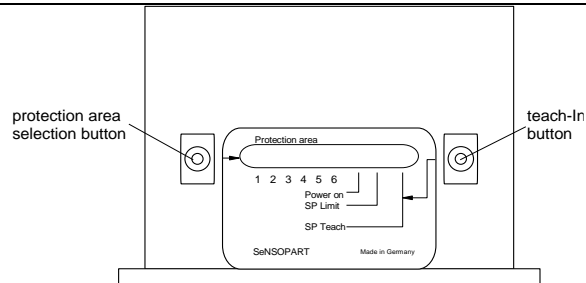
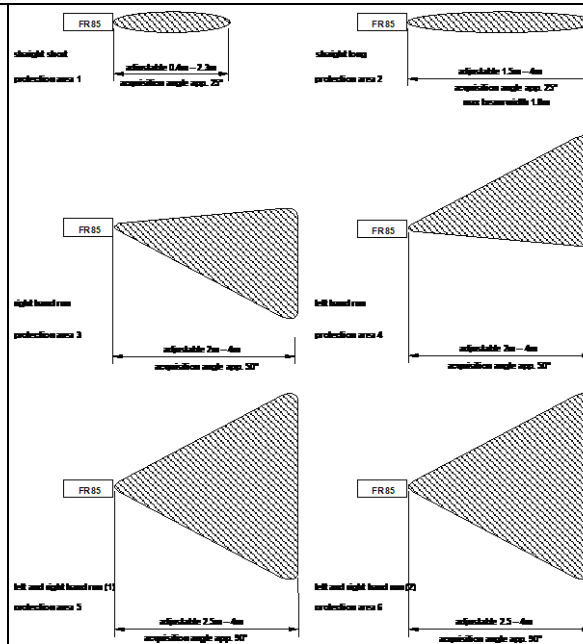

Figure 6. Collision Avoidance Sensor
Figure 7. Protection Areas
3. Select the desired protection area by pushing the protection area selection button (see Figure 6). The selected protection area is signaled by the respective yellow protection area LED. For the available protection areas, see Figure 7 below.